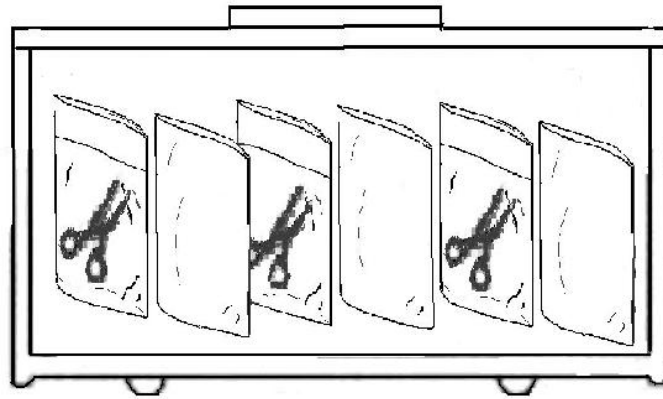

Figure 25
**Warning:** If implements are packed with sterilizing pouches and placed inside a sterilization box, make sure to display items as Figure 25.